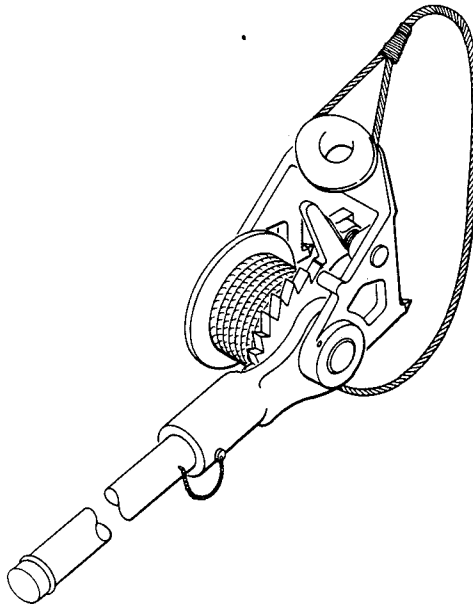

Fig. 4—AT-8139 L2A Pole Binder
3.05 The AT-8139 L2A Pole Binder is comprised of the base which has calks for seating in the pole, a rope knob, a ratchet-controlled hand-lever-operated winch, a removable handle, and a wire rope sling. The spring-loaded pawl controls the take-up and release of the drum (Fig. 4).
3.08 When binding a load using the AT-8139 L2A Pole Binder, place the binder against the pole so that the calks will hold the binder in place. Pass the sling around the pole load and trailer frame. Attach the rope eye to the rope knob on the base of the binder (Fig. 4). The winch is used to tighten the wire rope. Since the wire rope sling will pass around sharp corners of the trailer, it